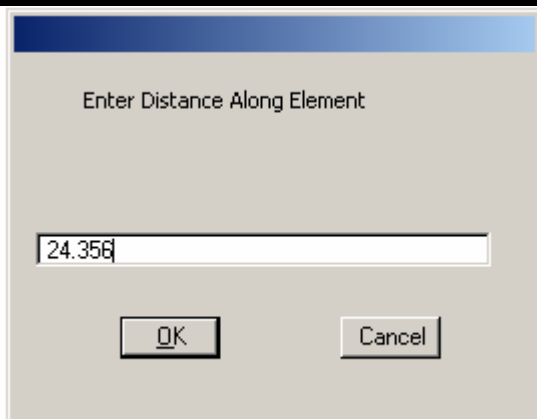

Figure 9-36: Point Along Distance
*Data Point to Accept* and MicroStation will prompt you to enter in a distance (Figure 9-36). Take the station of your PC or PT and calculate the distance to a nearby 100' (20m for metric) station (you do the math.) Enter this distance and push **OK**. MicroStation will prompt you to “Identify Direction for Construction.” Enter a *Data Point* on the Baseline in the direction of the Station you want to place. Finish drawing the line at this point. This will serve as a *Station Marker Construction Line* for placing your Stationing in the next step.